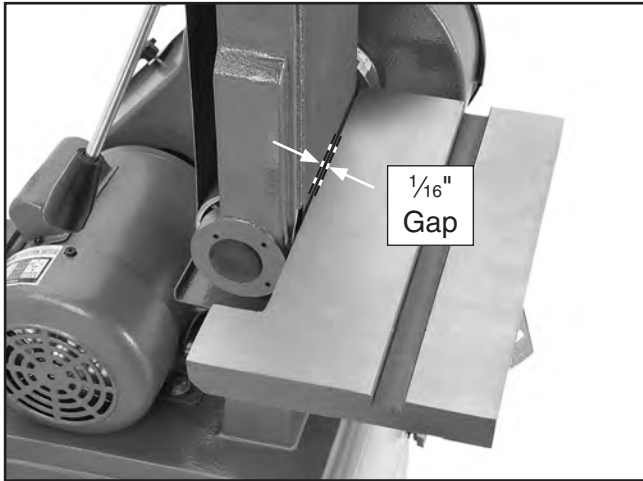

Figure 68. Correct distance between work table and sanding belt.
- Adjust the front of the work table $\frac{1}{16}$ " away from the sanding belt (see **Figure 68**) across its entire length.